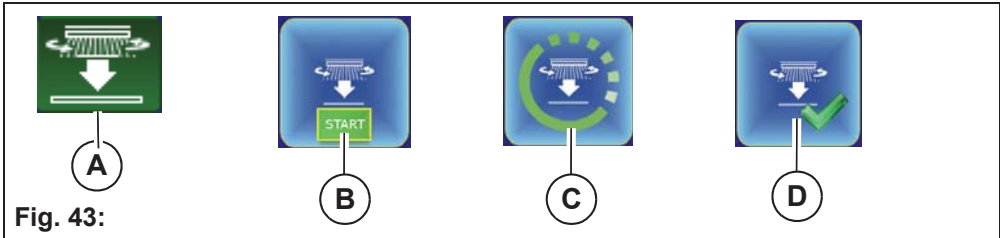

Fig. 43:
2. Select soft key *Eject brushes* **Fig. 43-A** using the turn-push knob and confirm. The action window **Fig. 43-B** opens. Confirm the start with the turn-push knob.
The procedure starts and symbols **Fig. 43-C, D** appear on the MFD one after the other. Only now is the procedure complete.